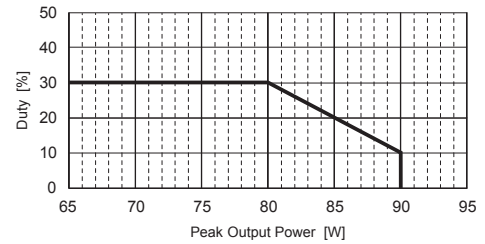

Fig.6.3 Duty of peak output power (TECS65F)
- $\text{Duty} = \frac{t_1}{t_1 + t_2} \times 100[\%]$ Refer to Fig 6.3 derating